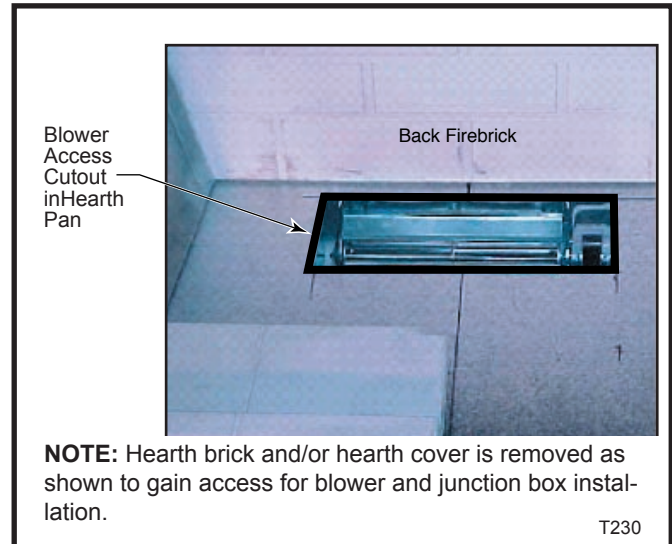

Fig. 10 Blower access.
Step 4: Locate the blower access cutout found at the rear of the hearth pan. Next, remove tape backing from tape on blower housing. Center the blower assembly in the access cutout area with the blower outlet duct pointing upward, then press firmly to attach foam tape to the back and bottom of the fireplace. (Fig. 10)